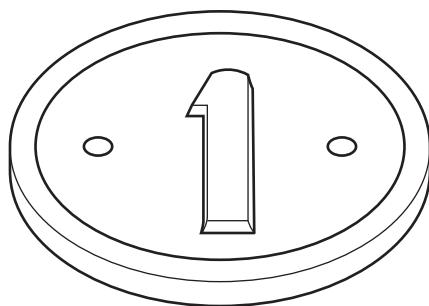

Fig. 4
- 3 A house number plate is shown in Fig. 4. The number plate has been made from brass by the sand casting process.
- (b) Give **two** reasons why sand casting is a suitable process for making the number plate shown in Fig. 4.